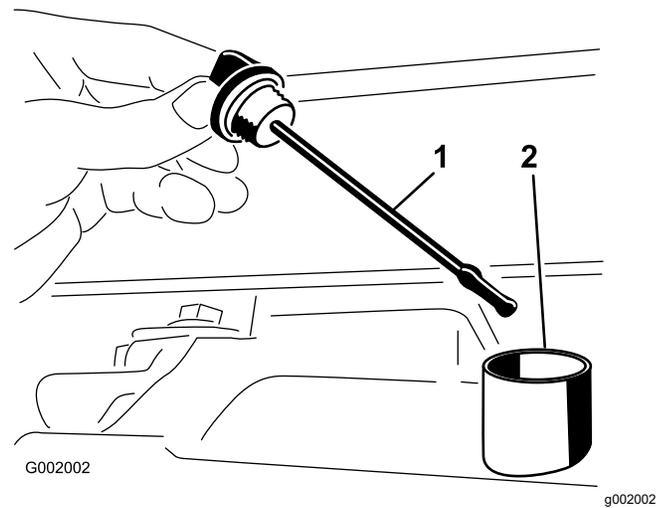

Figure 55
2. Remove the transaxle dipstick and wipe it with a clean rag (Figure 55).